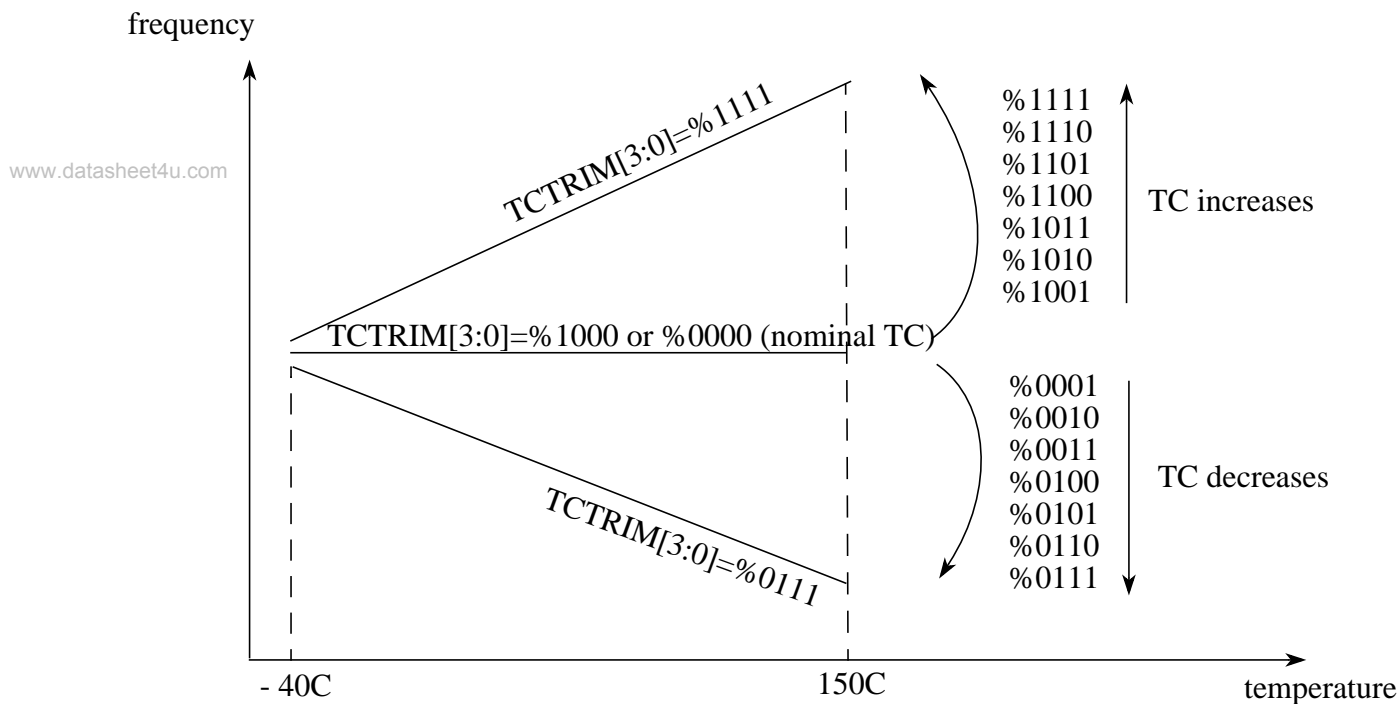

Figure 7-27. Influence of TCTRIM[3:0] on the Temperature Coefficient
15,14,13,12	<p>IRC1M temperature coefficient Trim Bits These bits are to trim the temperature coefficient (TC) of the frequency of the IRC1M. Figure 7-28 shows the influence of the bits TCTRIM3:0] on the relationship between frequency and temperature. Figure 7-27 shows an approximate TC variation, relative to the nominal TC of the IRC1M (i.e. for TCTRIM[3:0]=0000 or 1000).</p>